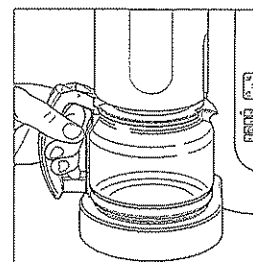

Figure 9
- Place coffee jug on the warming plate (Figure 9).